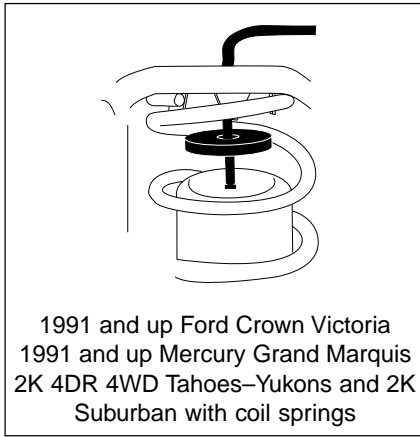

Figure 4
- b. Push cylinder to the bottom of the coil and insert protector at the top (See Figure 4).